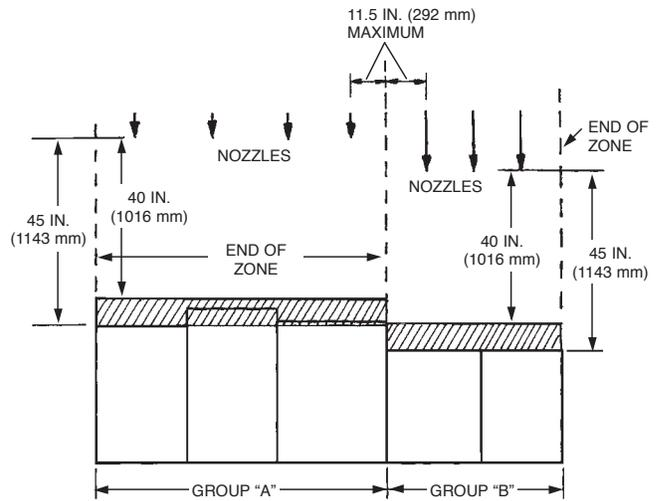

FIGURE 4-120
- On protected appliances, all hazard surfaces located in a group must be within 40-45 in. (1016-1143 mm) from the nozzle(s). Once that dimension is exceeded, a new group must be started. See Figure 4-120.